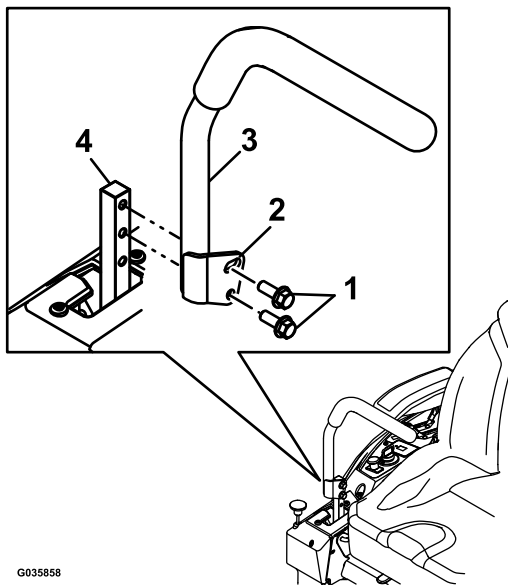

Figure 1
1. Remove the motion-control lever (Figure 1).